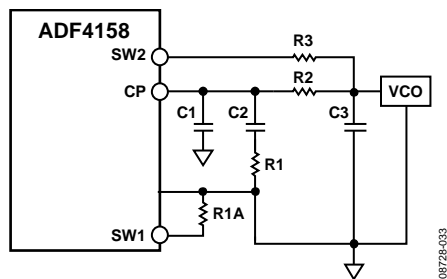

Figure 44. Fast-Lock Loop Filter Topology—Topology 2
- Connect an extra resistor (R1A) directly from SW1, as shown in Figure 44. The extra resistor must be chosen such that the parallel combination of an extra resistor and the damping resistor (R1) is reduced to  $1/4$  of the original value of R1.